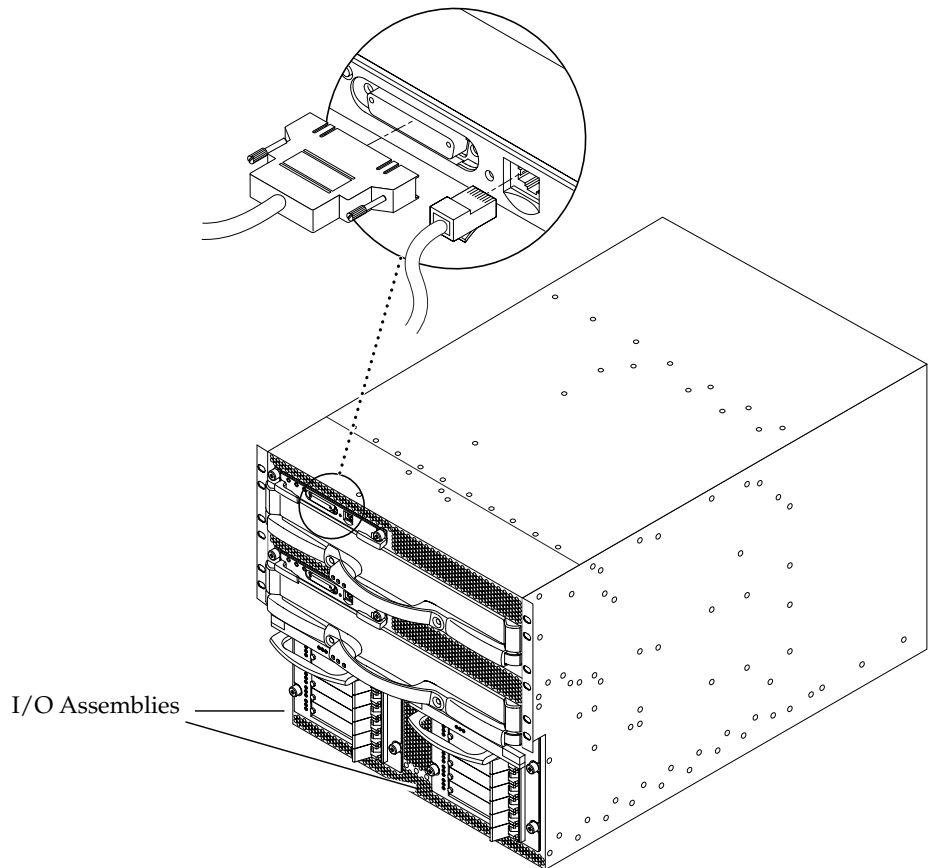

FIGURE 5-2 System Controller and I/O Assembly Locations on the Sun Fire 3800 System
The I/O assemblies provide network interface and peripheral access for the domains (FIGURE 5-2).
1. Connect one end of the serial cable (TTYa or Null modem) to the serial port on the primary System Controller board (FIGURE 5-2).
1. Connect one end of the shielded Category-5 Ethernet cable to the RJ-45 Ethernet port on the primary System Controller board (FIGURE 5-2).